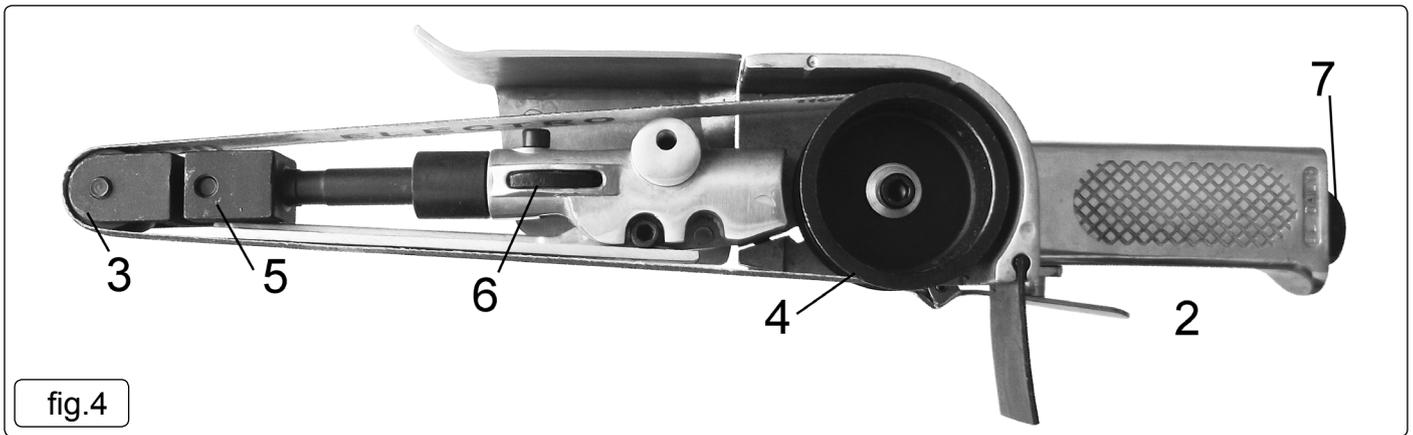

fig.4
4.1.1. Ensure Air sander trigger is in the "off" position (fig.4) before connecting to the air supply.